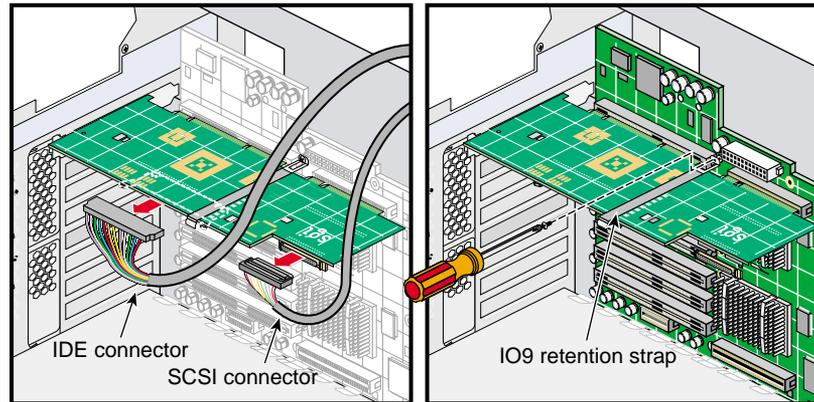

Figure 3-16 Disconnecting the Cables and Retention Strap
1. Disconnect the SCSI and IDE cables from the IO9 board. Then loosen the PCI retention strap (see Figure 3-16).